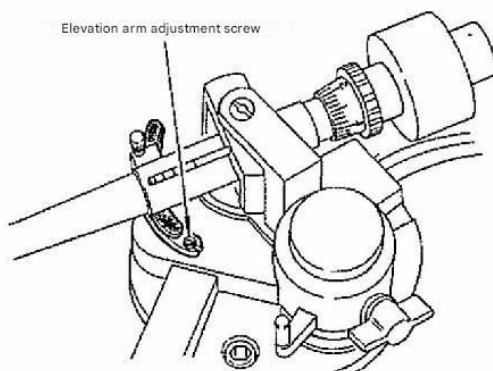

Fig. 15
- If there is a difference in height between the automatic and manual lifts, adjust the elevation arm adjustment screw so that it is the same as the automatic lift (Fig. 15).